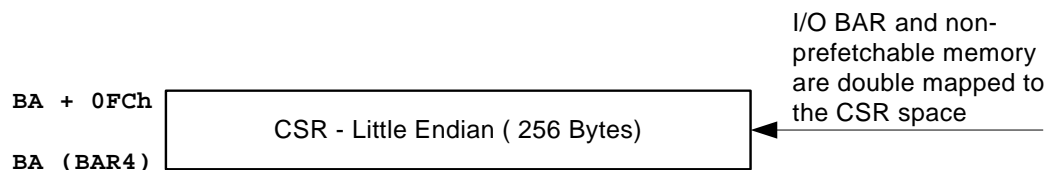

**Figure 3.3 CSR Double Endian Mapping**
The Non-Prefetchable address range contains a double mapping of the CSR. These mappings allow the registers to be accessed in little endian or big endian order. Figure 3.3, "CSR Double Endian Mapping" illustrates the mapping. BA is the base address, as specified by BAR3.
**Note:** A comparison of Figure 3.3 with Figure 3.4 indicates only the first 256 bytes of CSR little endian space is addressable via the I/O BAR.